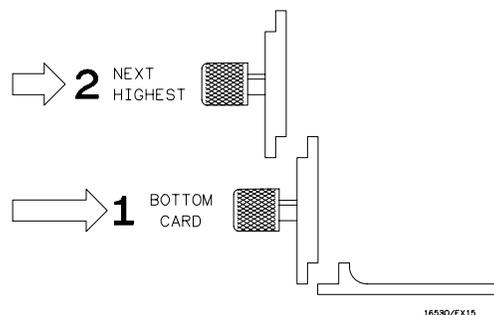

Figure 6-52. Endplate Overlap
6. Firmly seat the bottom card into the backplane connector of the mainframe. **Keep applying pressure to the center of the card endplate while tightening the thumb screws finger tight.** Repeat for all cards and filler panels in a bottom to top order. See figure 6-52.